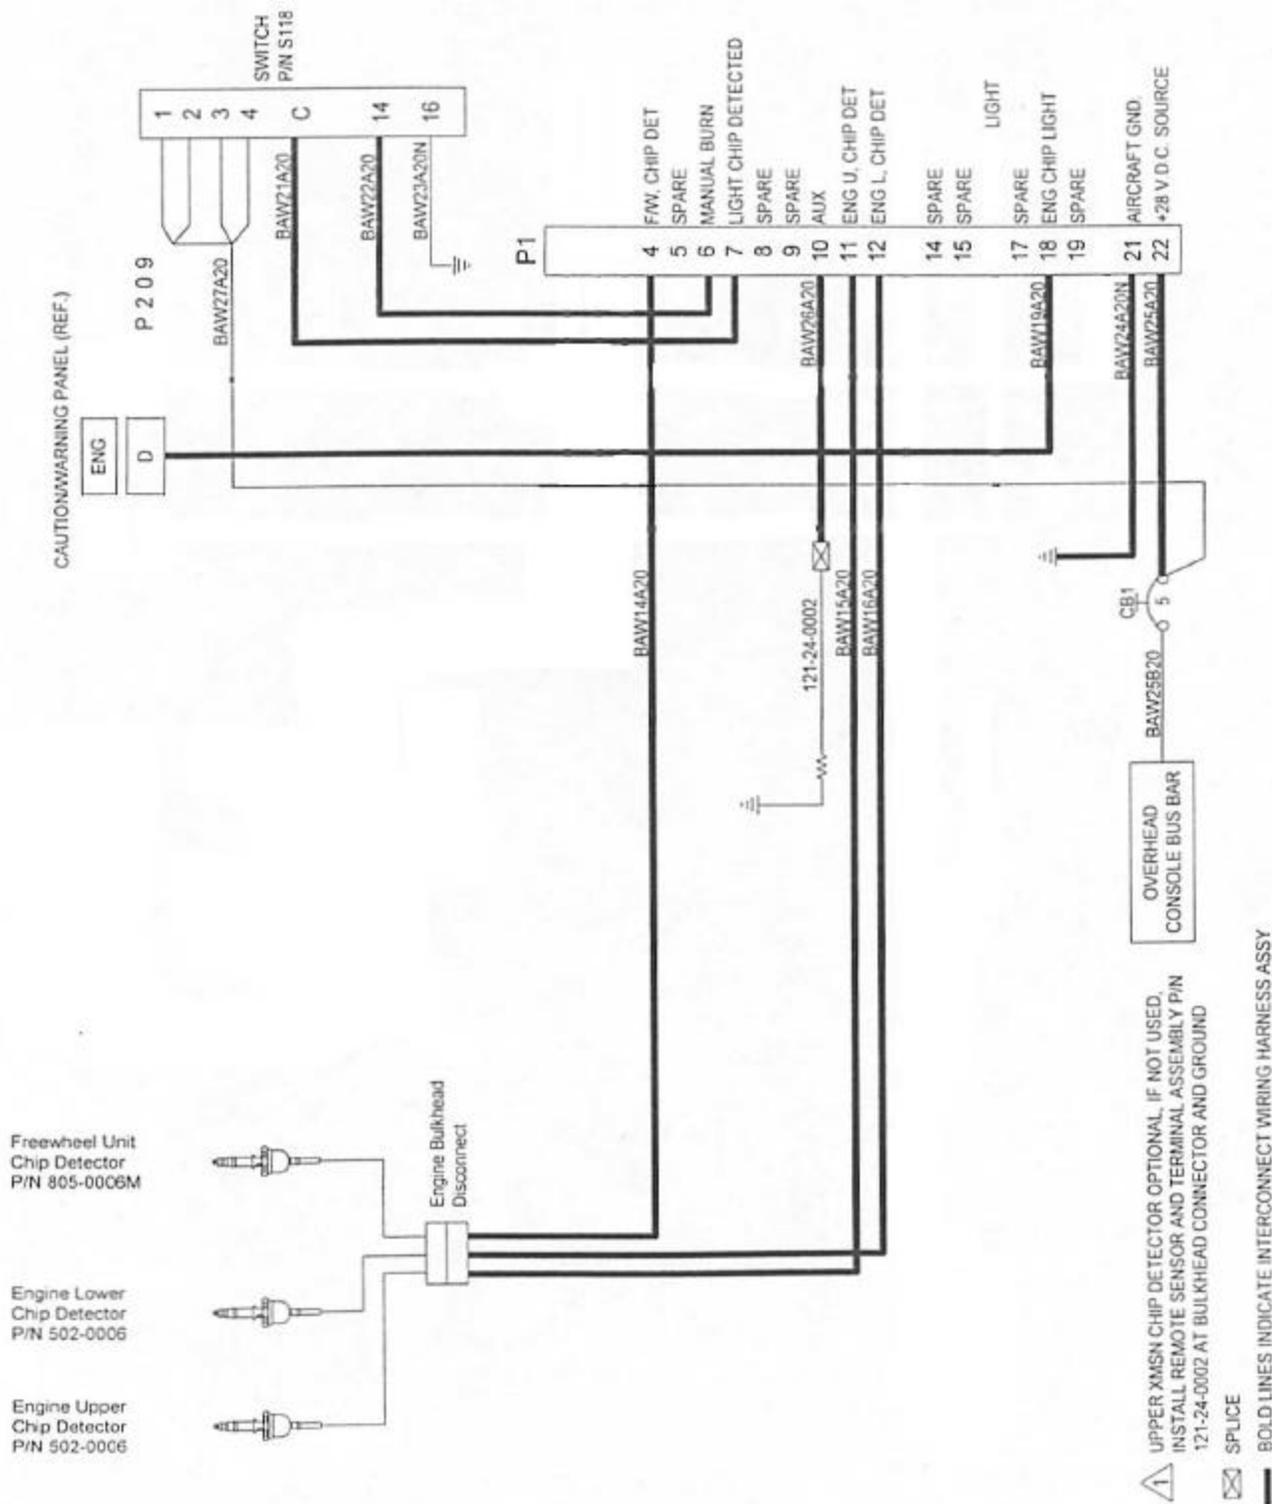

Figure 31-9. Wiring Chart Chip Detector
1. Figure 31-9, depicts model TH-57 series helicopters which have a caution-warning panel as part of the caution-warning system.